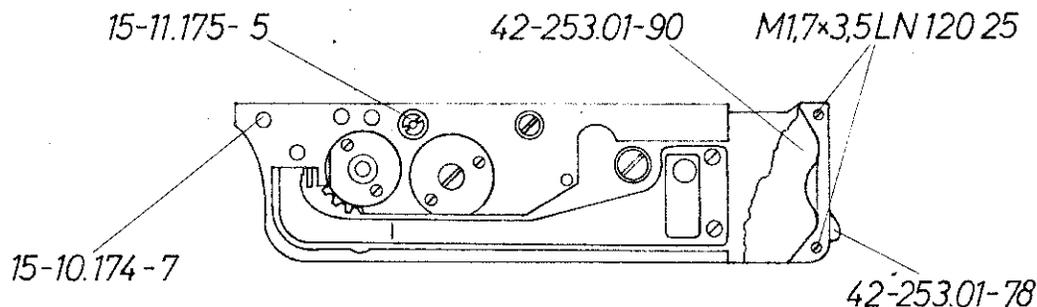

Fig. 22.1
2.23 If the end position of the first shutter blind is incorrect, unscrew the two screws M 1,7 x 3,5 LN 20 25 and the screw 15-10.174-7 (see fig. 22.1) with the 2,5 mm. dia. screw driver. Remove the cover plate 42-253.01-90 and the locking plate 42-253.01-78. Use the spanner 42-253.01-76 J2 to turn the nut 15-11.175-5 to the left or right until the end position of the first shutter blind corresponds to that specified in step 2.22. If the right-hand slot of the template indicates that the second shutter blind already appears in the picture area of the camera, re-check the ⚡ shutter speed (see sheet 13 of the Servicing Instructions for the Leica M 2).